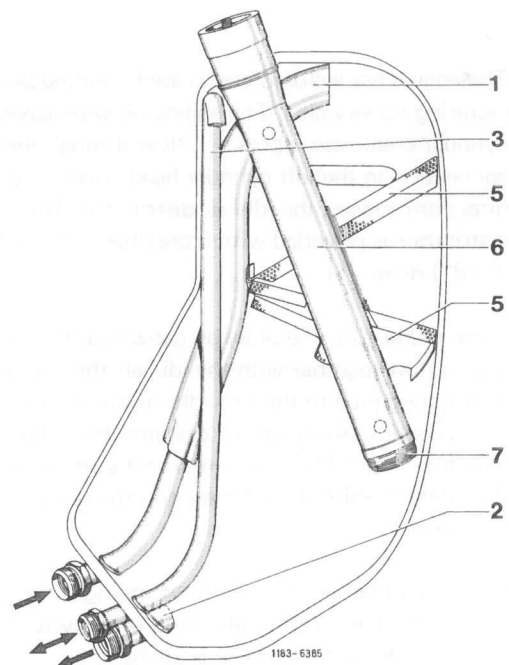

Fig. 94
To prevent foreign matter from entering the oil tank from the outside, a strainer (7) is soldered to the end of the filler pipe (6) (Fig. 94).
The oil tank is vented by means of a pipe and hose line (3) in the direction of the oil pan (Fig. 94).